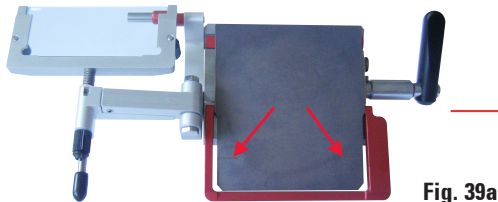

Fig. 39a
- Fold the anti-roll guide to the side and fasten the suction nozzle to the pressure plate – see mark Fig. 39a - (using 4 magnets on the rear side of the nozzle).